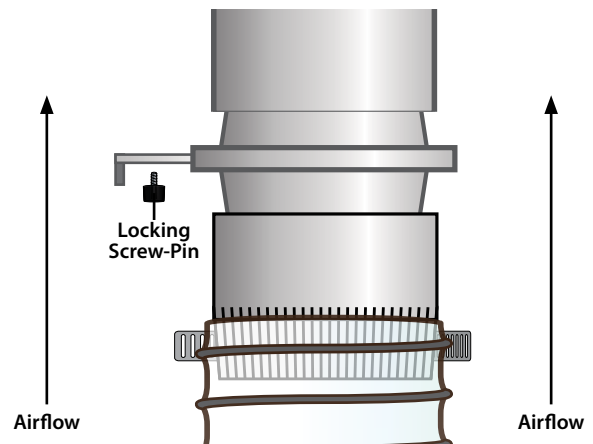

FIG. 29c
- Blast gates are designed to seal in one direction. When tightening the locking screw-pin, it should be tightened in the direction of the airflow. The plate will be pushed tighter towards the pipe and seals everything airtight [FIG 29c].